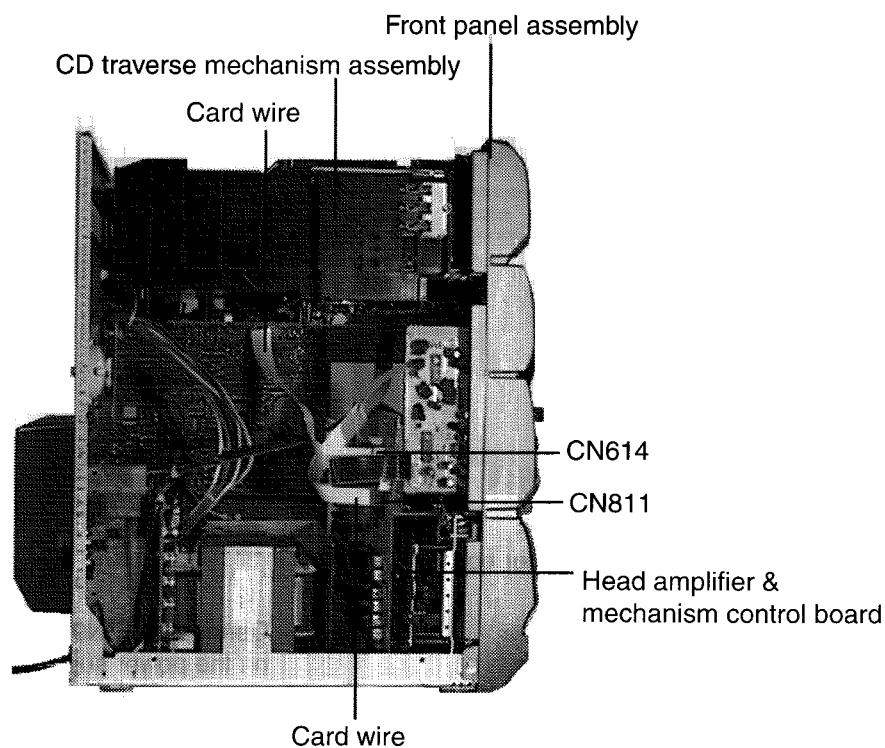

Fig. 5
7. Disconnect the card wires connected to the CD traverse mechanism assembly from connectors CN614 on the head amplifier & mechanism control board . (See Fig. 5)
8. Disconnect the card wires connected to the CD traverse mechanism assembly from connectors CN811 on the head amplifier & mechanism control board .(See Fig. 5)
5. Disconnect the 3pin wire connected to the front panel assembly from connector CN915 on the power supply board. (See Fig. 5)
6. Disengage the two engagements ① ② both side the front panel assembly. (See Figs. 5, 7)